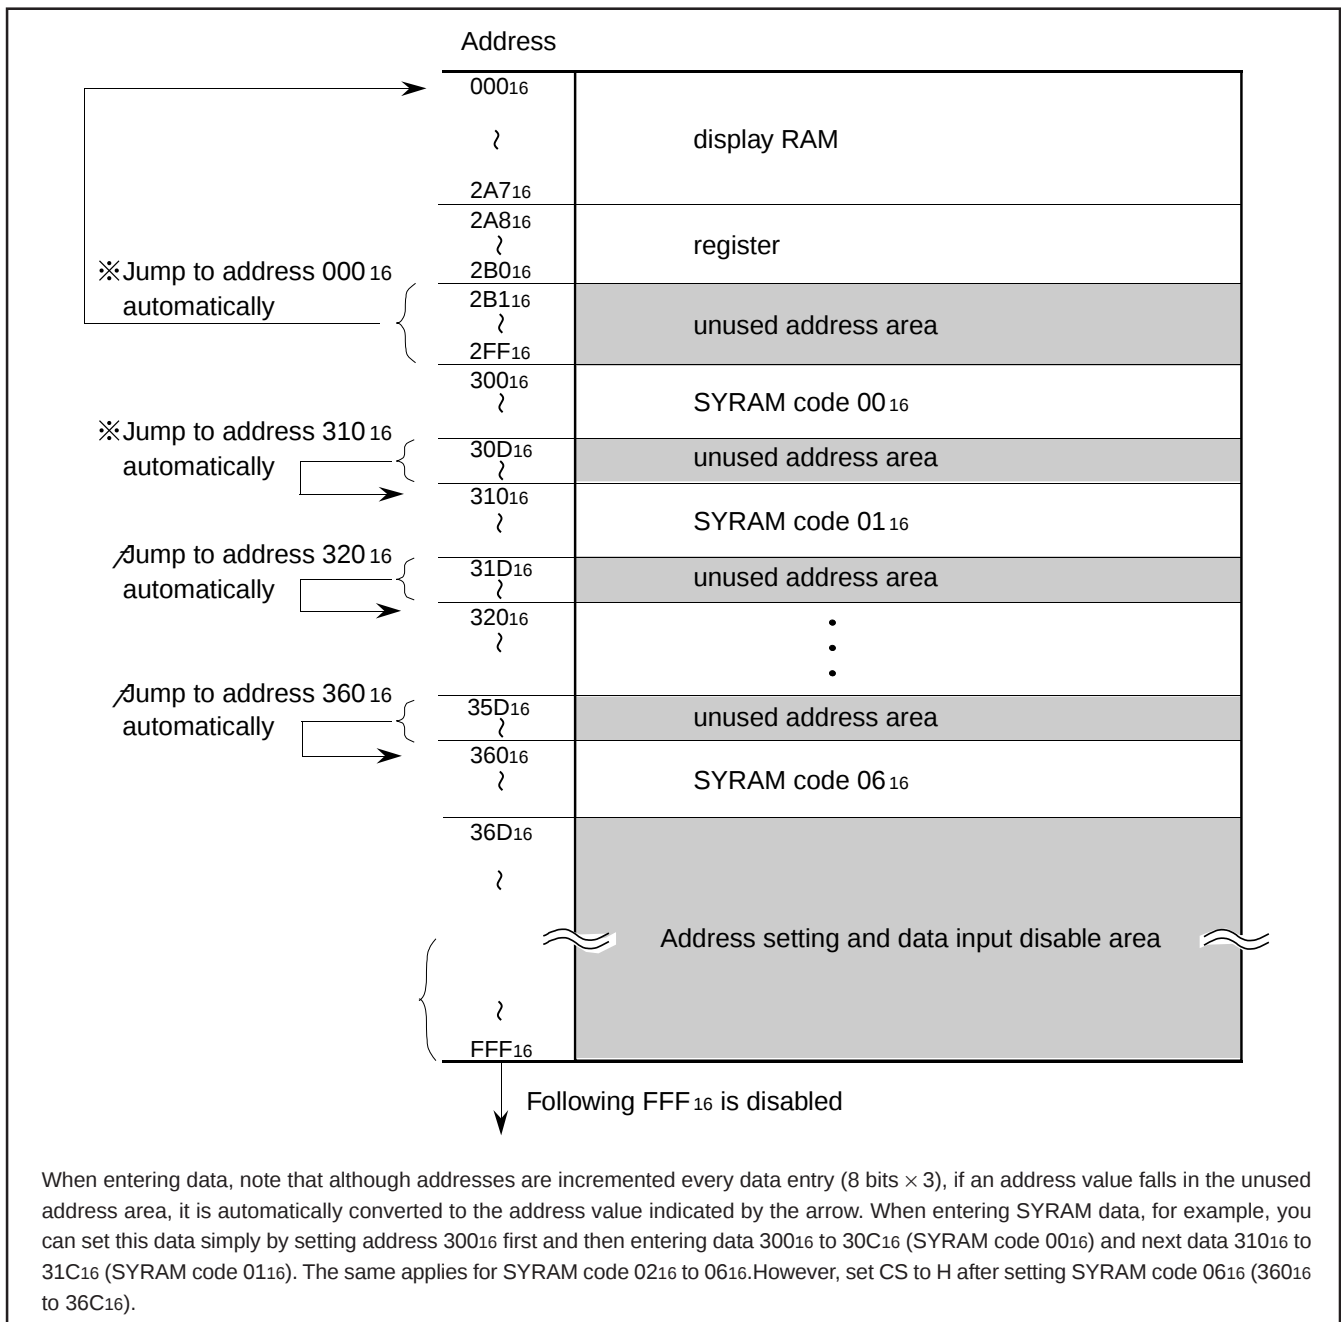

Fig. 12 Address construction
- (1) The address consists of 8 bits $\times$ 3.
- (2) The data consists of 8 bits $\times$ 3.
- (3) The 8 bits $\times$ 3 in the SCK after the $\overline{CS}$ signal has fallen are the address, and for succeeding input data, the address is incremented every 24 bits (8 bits $\times$ 3). Refer to Fig.12 about detail for address increment.